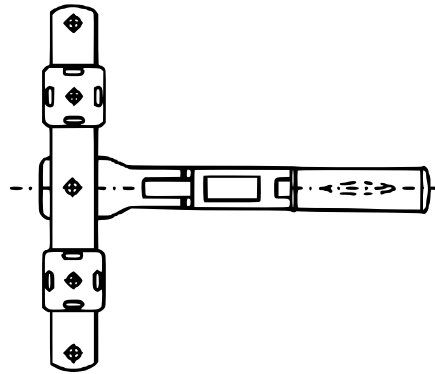

Figure 3
2. Fix the fixing rail into the notch with the help of the winged screw as shown in Fig. 3.